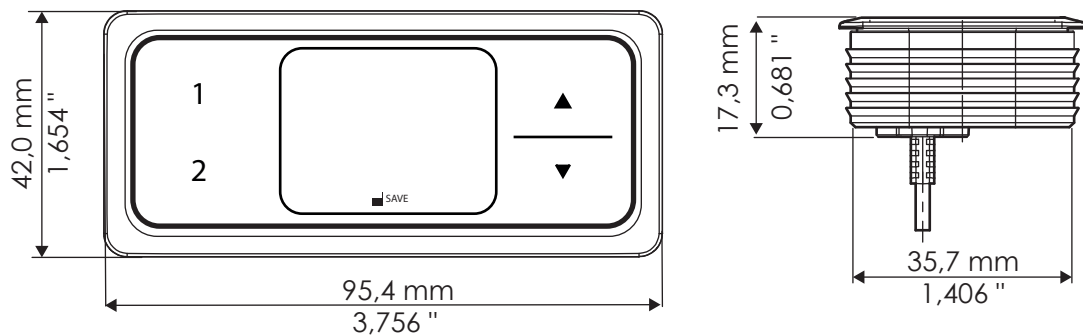

Fig. 6: Product dimensions, TOUCHinlay
2. Insert the Strain Relief into the designated slot on the Handset (Fig. 6).